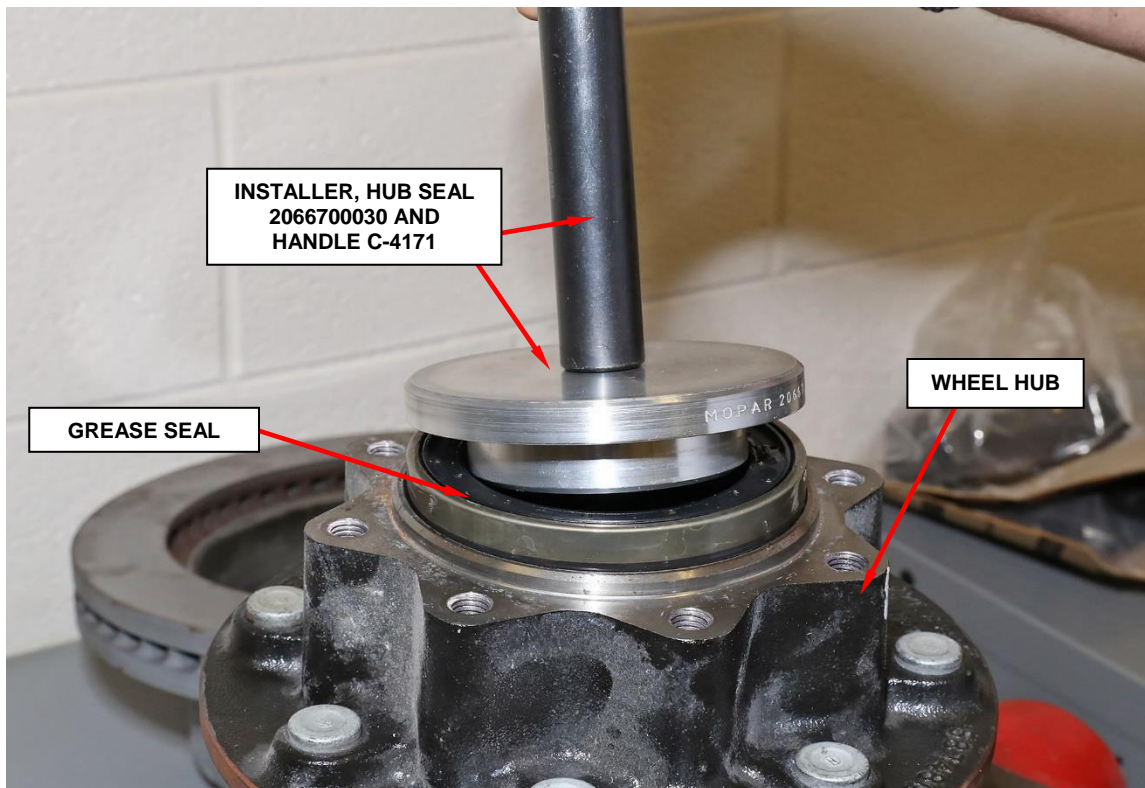

Figure 15 – Grease Seal Installation
22. Install **NEW** grease seal with **Installer, Hub Seal 2066700030** and **Handle C-4171** for 12.0” Ring Gear or **Installer, Hub Seal 8693** for 11.5” Ring Gear (Sales Code DRC = 12.0”) (Sales Code DRX=11.5”) (Figure 15).